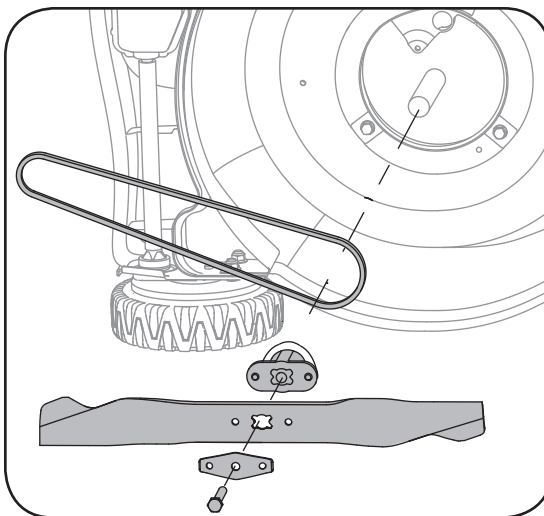

Figure 4
2. Remove bolt, blade bell support, blade, and blade adapter from the engine crankshaft. See Figure 4.